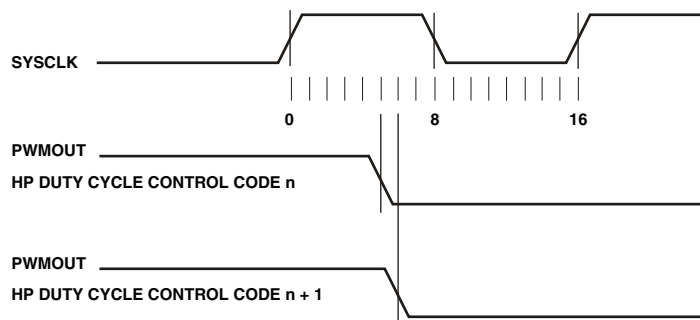
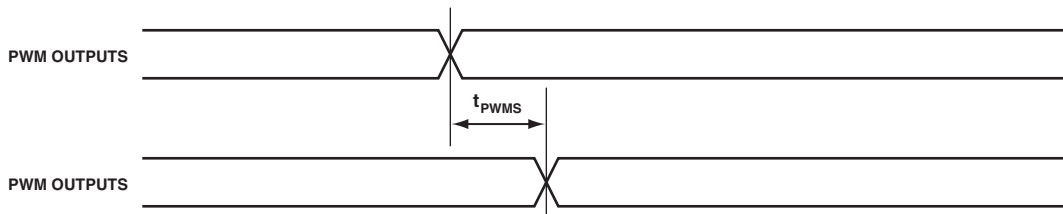

Figure 58. Fractional Duty Cycle Edge Placement (4-Bit Resolution)
Figure 61. PWM HP and MP Modes Timing, Output Skew
Table 87, Table 88, and Figure 58 through Figure 61 describe heightened precision (HP) PWM operations.
2See Figure 58 for an example of 4-bit resolution of fractional duty cycle edge placement.